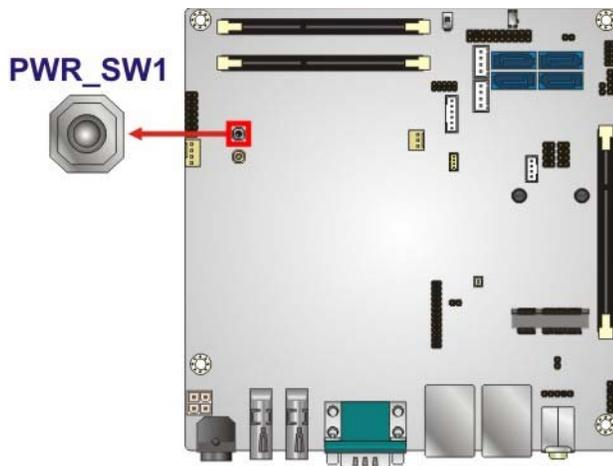

Figure 3-19: On-board Power Button Location
- CN Location:** See **Figure 3-19**